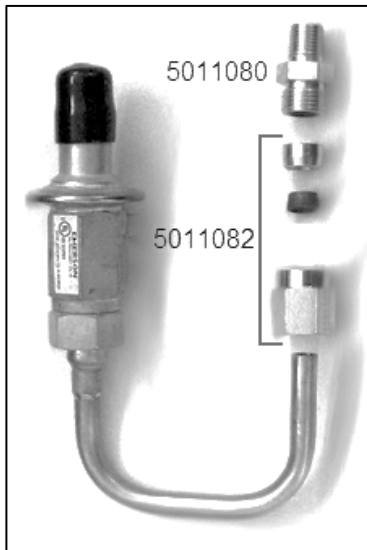

Figure 6
- Install #5011082 compression fitting on the bare end of the bypass tube welded assembly. (Fig 6) Make sure the end is extra clean and free of burrs. In doubt, use a fine "Scotch Brite" type scouring pad.
- Install #5011080 ORS adapter between the compression fitting and the female Tee. (Fig. 6)